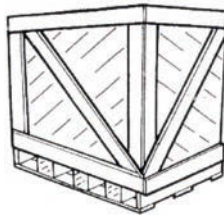

Fig. 2.1
- packaging with a wooden or cardboard box is envisaged for international shipments (see figures 2.1 and 2.2 );